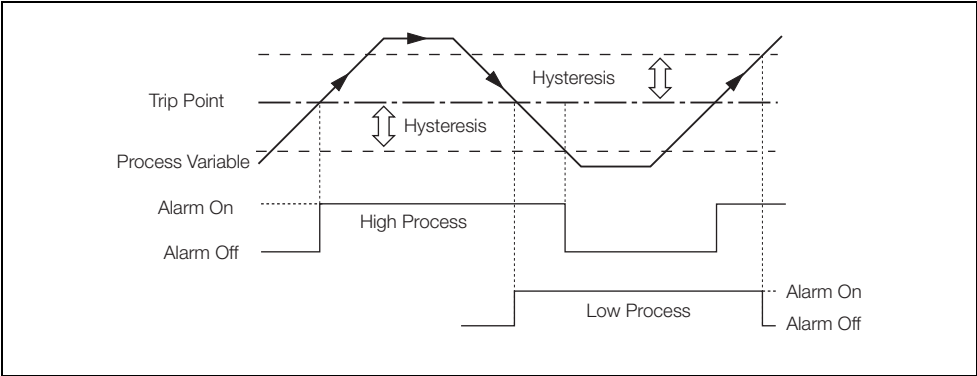

Fig. 7.11 High/Low Process Alarms
- High/Low process – see Fig. 7.11, page 100